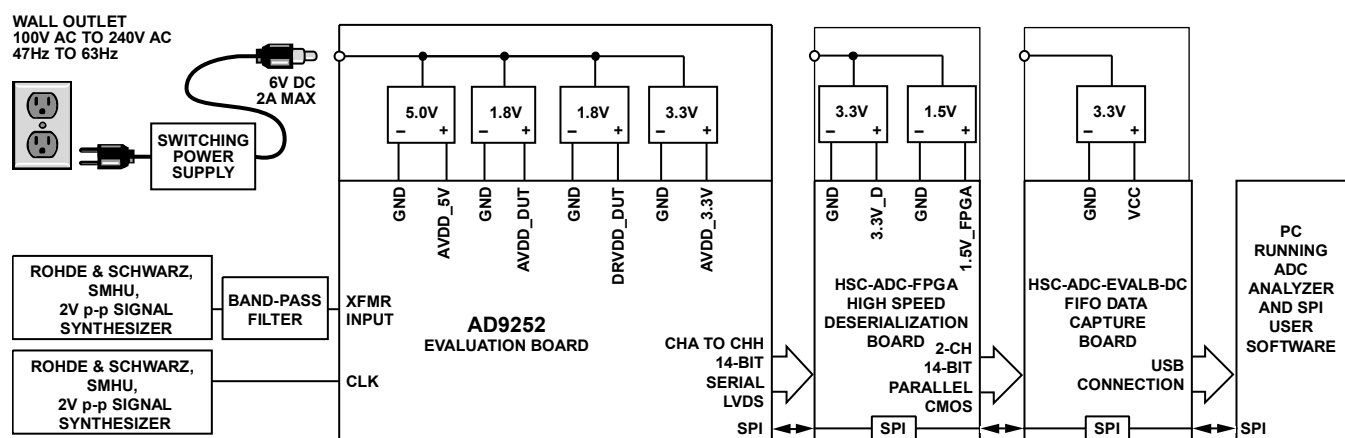
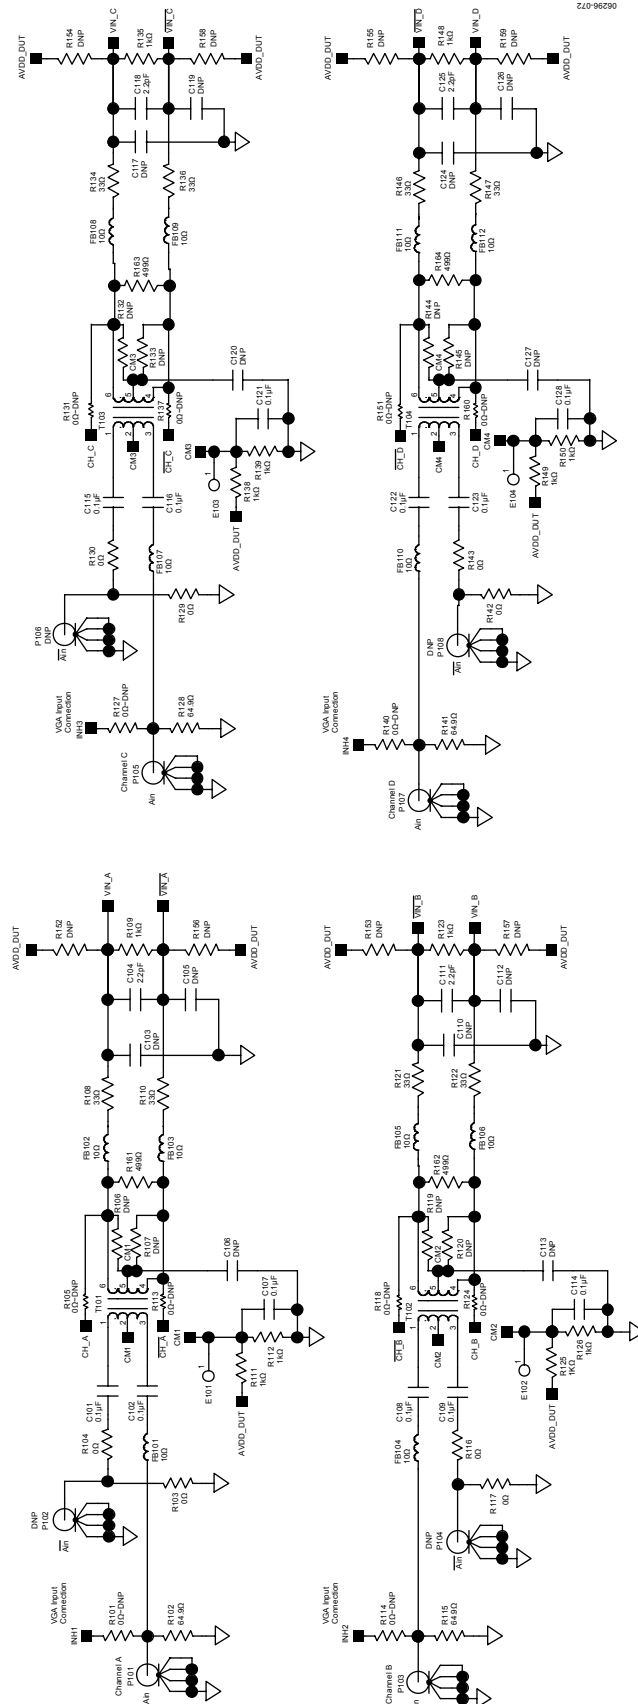
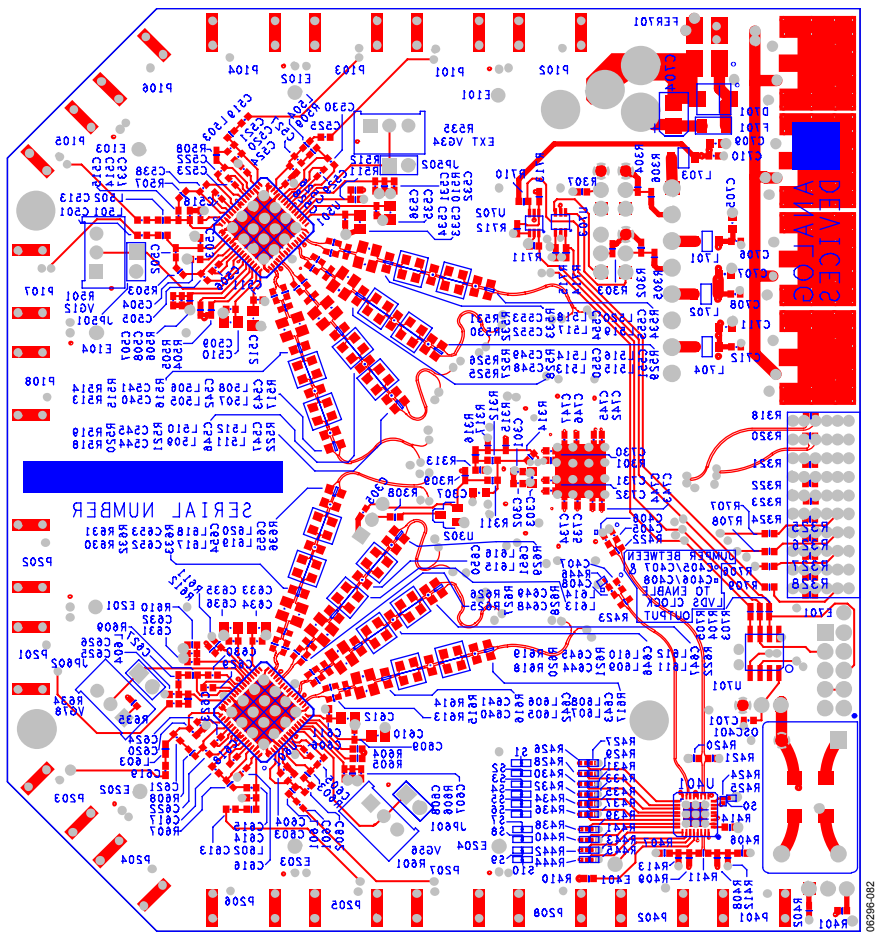

Figure 60. Evaluation Board Connection
Figure 62. Evaluation Board Schematic, DUT Analog Inputs
Figure 72. Evaluation Board Layout, Secondary Side (Mirrored Image)
The AD9252 evaluation board provides all of the support circuitry required to operate the ADC in its various modes and configurations. The converter can be driven differentially through a transformer (default) or through the AD8334 driver. The ADC can also be driven in a single-ended fashion. Separate power pins are provided to isolate the DUT from the AD8334 drive circuitry. Each input configuration can be selected by proper connection of various jumpers (see Figure 62 to Figure 66). Figure 60 shows the typical bench characterization setup used to evaluate the ac performance of the AD9252. It is critical that the signal sources used for the analog input and clock have very low phase noise (<1 ps rms jitter) to realize the optimum performance of the converter. Proper filtering of the analog input signal to remove harmonics and lower the integrated or broadband noise at the input is also necessary to achieve the specified noise performance.
See Figure 62 to Figure 72 for the complete schematics and layout diagrams that demonstrate the routing and grounding techniques that should be applied at the system level.
- **D+, D-:** If an alternative data capture method to the setup described in Figure 62 is used, optional receiver terminations, R318, R320 to R328, can be installed next to the high speed backplane connector.